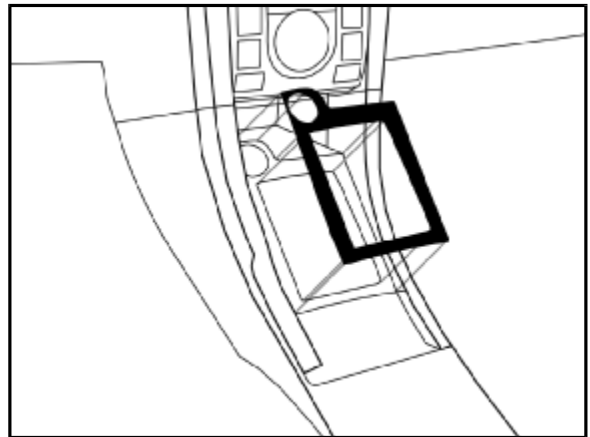

Fig. M1
- ⚠ A. Align part uniformly to edge of factory components. Edge of appliqué should be flush to edge of factory component, ±1.0mm. (Fig. M1).